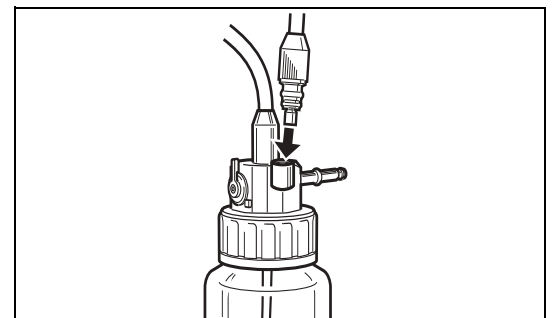

Figure 3.3
- Insert the air/water connector into the holder on the water bottle cap until the endoscope is connected. (Refer to Figure 3.3.)